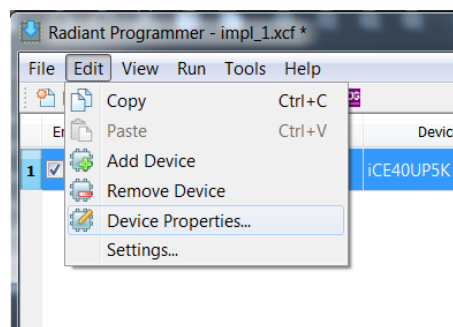

Figure 3.3. Edit > Device Properties Menu Item
4. Choose **Edit > Device Properties** menu item (Figure 3.3) to open the Device Properties dialog.